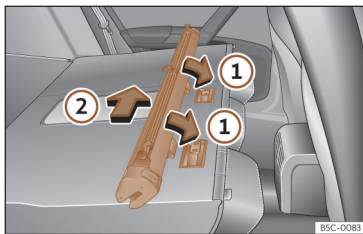

Fig. 191 Assembling the net partition in the rear seat backrests.
- Place the net casing in the rail slots in the direction of the arrows >>> **Fig. 191 ①**.
- Push the casing towards the left side of the vehicle in the direction of arrow >>> **Fig. 191 ②**.
- Pull the net casing out approximately 5 cm in the opposite direction to the arrow >>> **Fig. 191 ②**.
- Remove the casing from the rails by pulling in the opposite direction to the arrows >>> **Fig. 191 ①**.